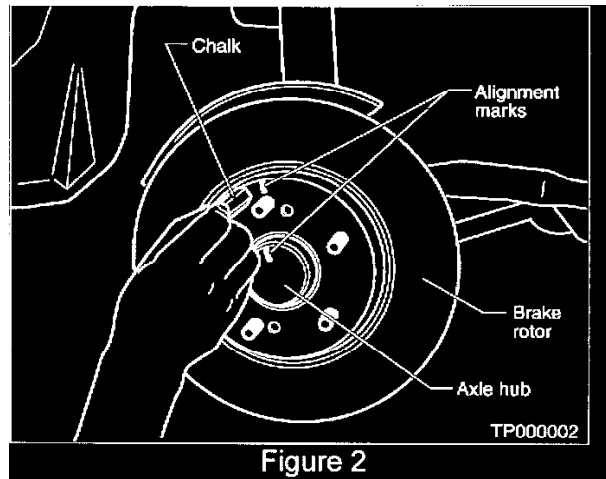

Figure 2
- ^ Mark the exact location of the rotor (on the axle hub) before removing the rotor (see Figure 2).
3. Put an alignment mark on the rotor and the axle to ensure the rotor remains in its original position (see Figure 2).